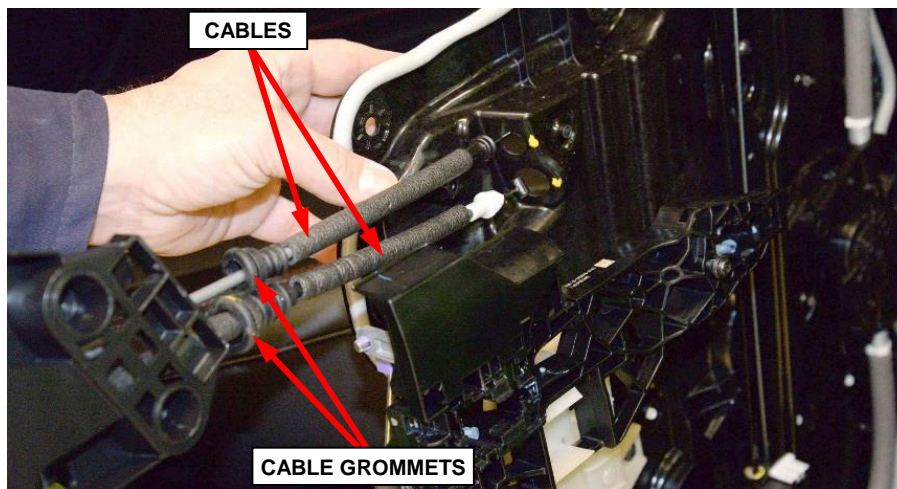

Figure 20 – Door Handle and Lock Cables
35. Release the door handle cable and lock cable grommets from the carrier plate then guide the cables out of the carrier plate (Figure 20).
53. Guide the door handle cable and lock cable cables into the carrier plate and seat the cable grommets (Figure 20).